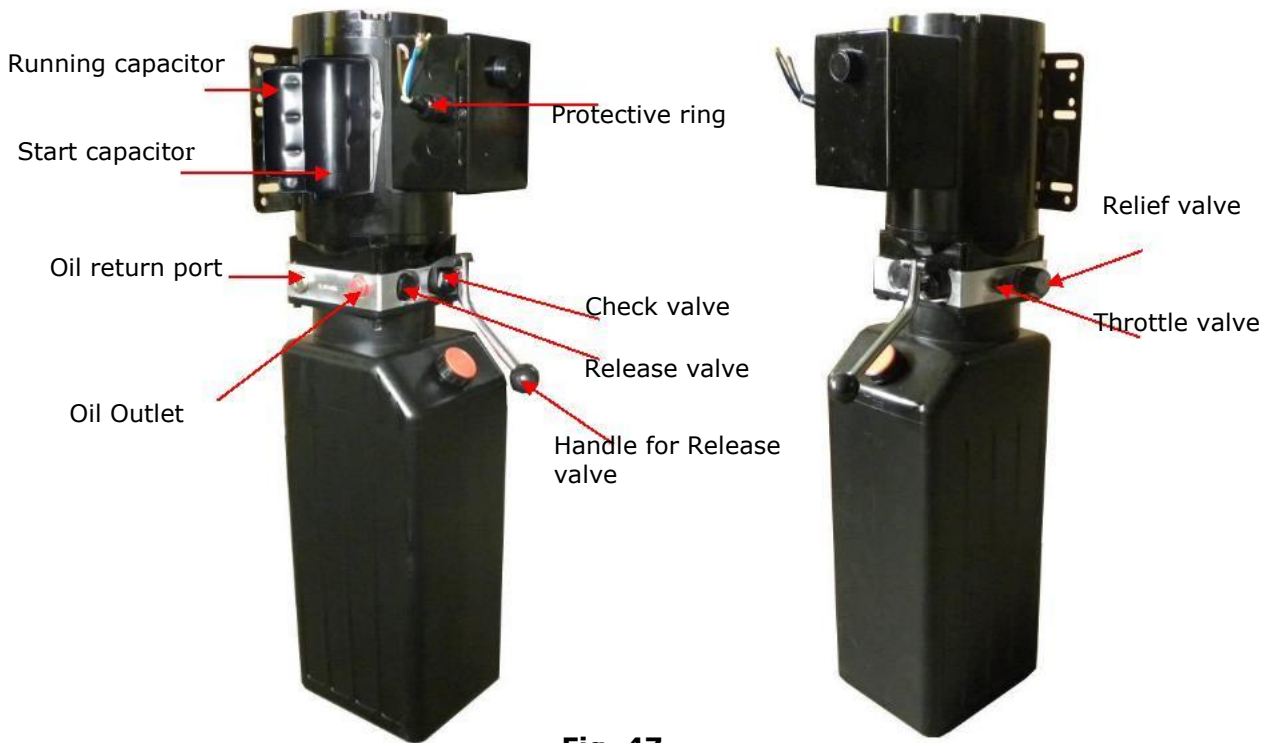

Fig. 47
b. Indypro manual power unit, 220V/50HZ, Single phase (See Fig. 47)